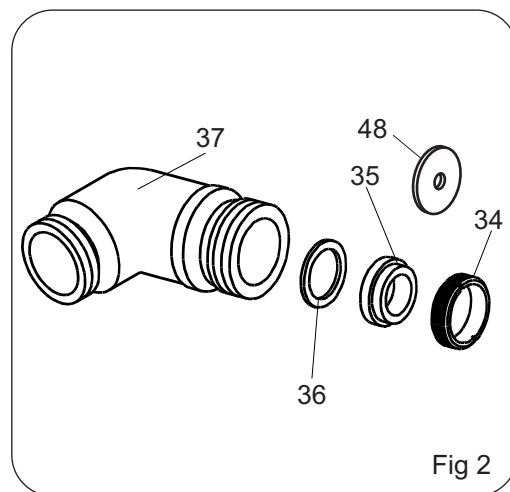

Fig 2
* fit white orifice disc Part No. 460192 (item 48) into **COLD** inlet elbow, follow the same fitting instructions as for flow limiter.....**DO NOT USE THE FLOW LIMITERS.** (Fig.2)
* fit 7 litre (green) limiter into **COLD** inlet elbow only. (item 35 - Fig .2)
* fit 5 litre (yellow) limiter into **HOT** inlet elbow. (item 35 - Fig .2)
* fit 7 litre (green) limiter into **COLD** inlet elbow. (item 35 - Fig .2)
The **HOT** supply from the heater is to be connected to the **HOT** inlet elbow and **COLD** inlet elbow connected to the **COLD** supply. Fit 7 litre limiter (green as supplied) into **COLD** inlet elbow as shown in Fig. 2. With certain permutations of Combination Boiler and mains pressure it may be necessary to fit a 5 litre (yellow) flow limiter into the **HOT** elbow.
This will require a 5 litre (yellow) flow limiter (item 35 - Fig. 2) into **COLD** inlet elbow.